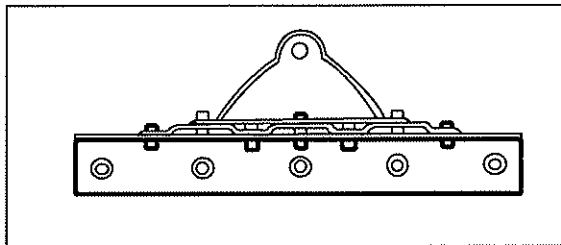

Fig. 6
3. Each support bracket must be attached with the number of bolts recommended by the fifth wheel manufacturer. (See Fig. 6.)
4. A spacer that is the same thickness as the tractor frame must be used between the mounting bracket and inboard mounting angle iron. See Fig. 6.